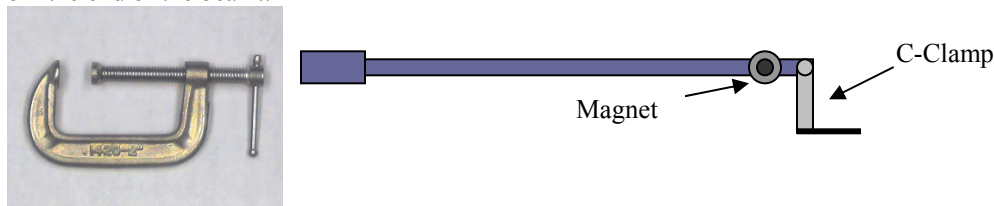

Figure C-1
- Place each mass as close to the end of the beam as possible using a c-clamp – ideally they should be located at the very end of the beam. Orient the c-clamp and mass so that their center of mass is near the end of the beam, as shown in figure C-1. For example, attach the c-clamp from the side rather than from the end of the beam..